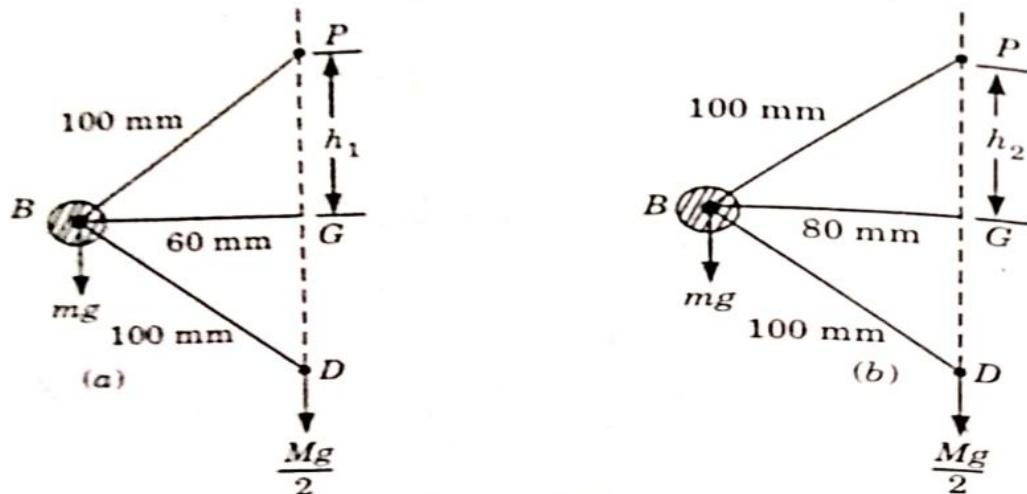

Fig. 4.21.1.
1. From Fig. 4.21.1(a), we find that height of the governor,
3. From Fig. 4.21.1(b), we find that height of the governor,